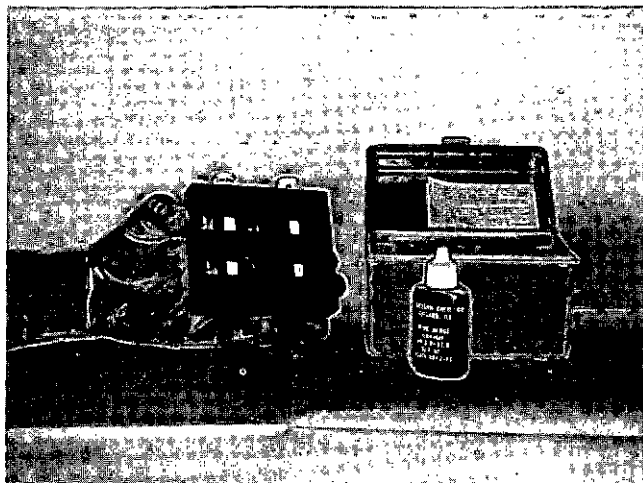

Fig. 8-4-2, N11946. Coolant checking kit ST-993
When using plain water in a cooling system with a corrosion resistor (with chromate-type element) or when treating with chromate compounds, the concentration of effective inhibitor dissolved in the coolant can be measured by the color comparison method. Cummins Coolant Checking Kit ST-993 should be used for this check, Fig. 8-4-2.
1. Separate tubes marked "pH" are furnished in the ST-993 Test Kit, Fig. 8-4-2.